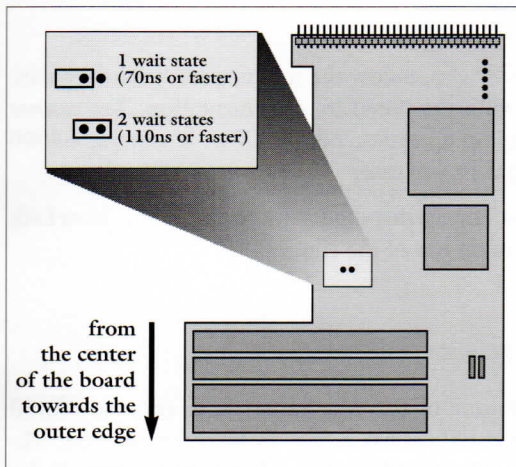

Figure 8 : The wait state jumper
2. Set the wait state jumper to correspond to the type of memory you are installing as shown in Figure 8.